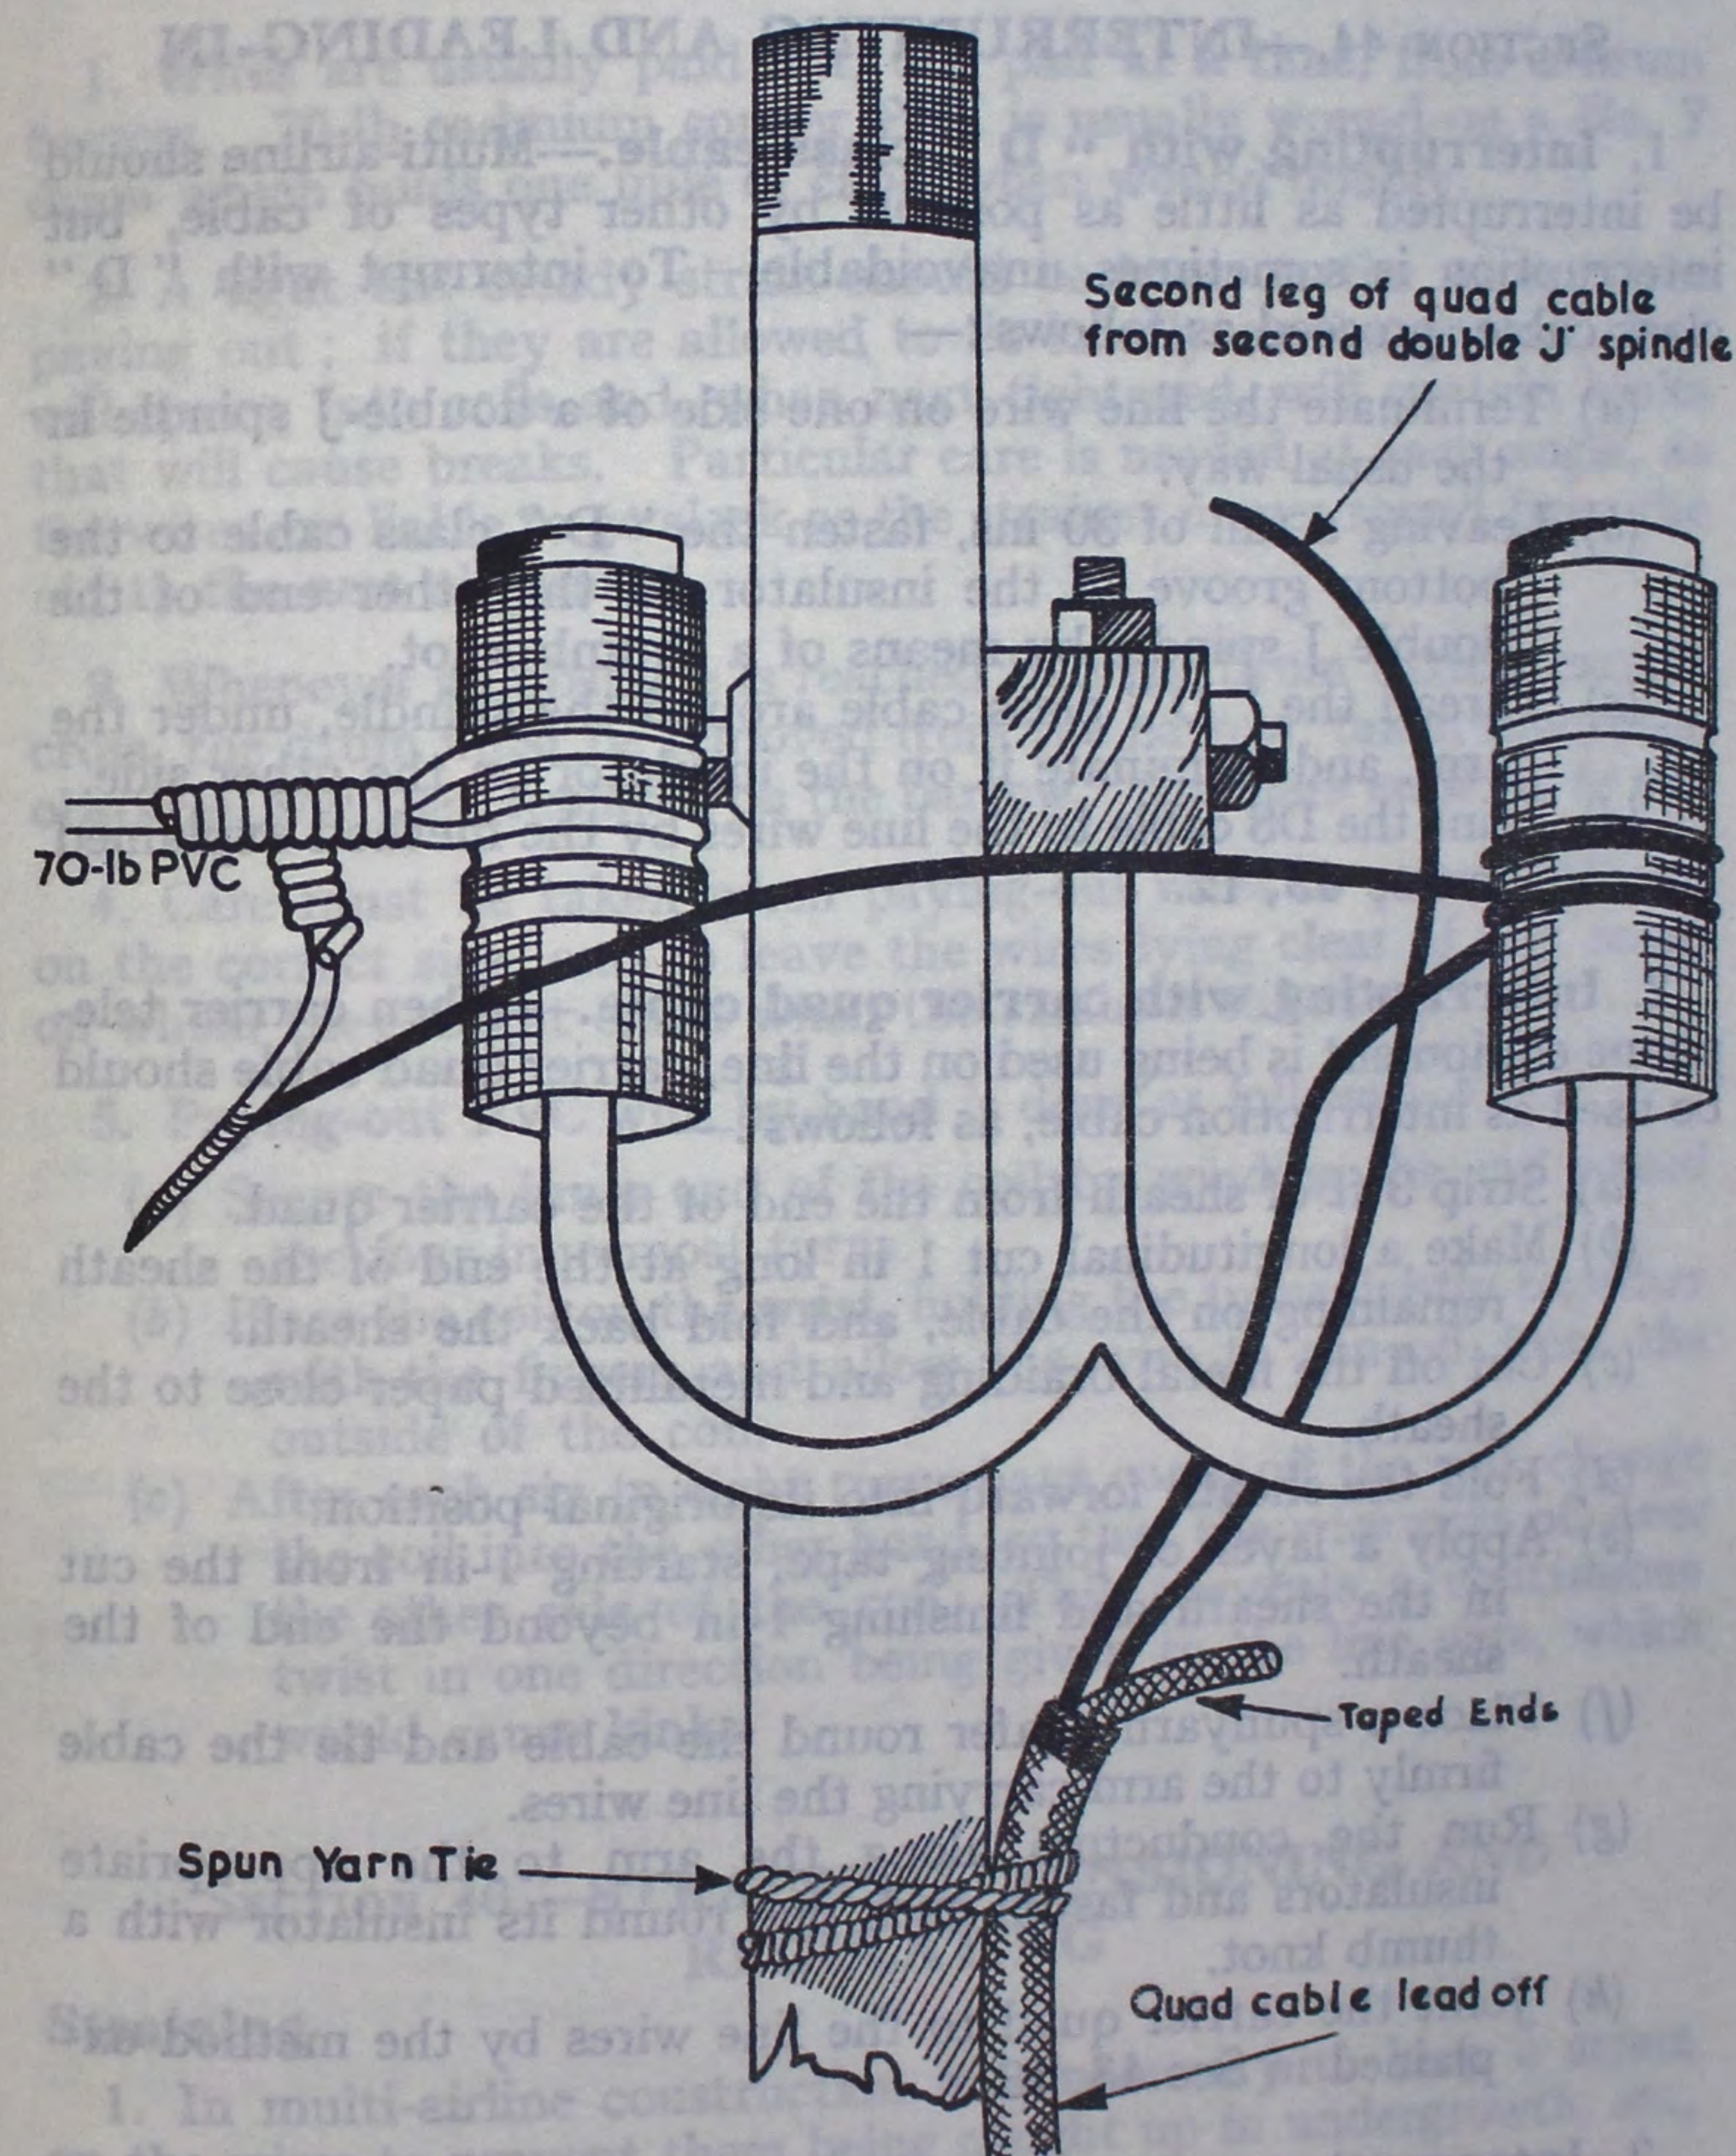

Fig 29.—Jointing 70-lb cadmium copper PVC to quad cable.
12. Jointing 70-lb cadmium copper PVC to quad cable is done the same way as jointing to "D" class cable, except that a tinned copper binding wire, 24 ins long, is required. The copper strand from a length of D8 cable is suitable. The insulated conductors of the quad are freed for about 3 ft by stripping the outer sheath (see Fig 29). The end of the sheath must be sealed with insulating tape.